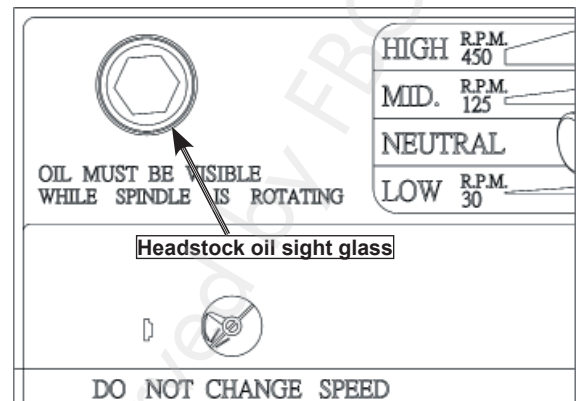

Fig. 20 Headstock oil sight glass
13. Rotate the red EMERGENCY stop switch knob clockwise until it pops out and the pump will turn ON. Observe the oil pump tube sight glass (figure 20). When oil flows out of the tube and against the sight glass, you can start the lathe.